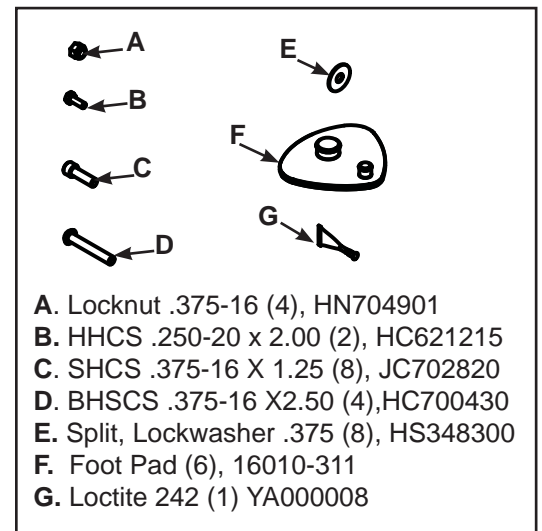

Figure 1
- A. Remove hardware pack and verify contents. See Figure 1.